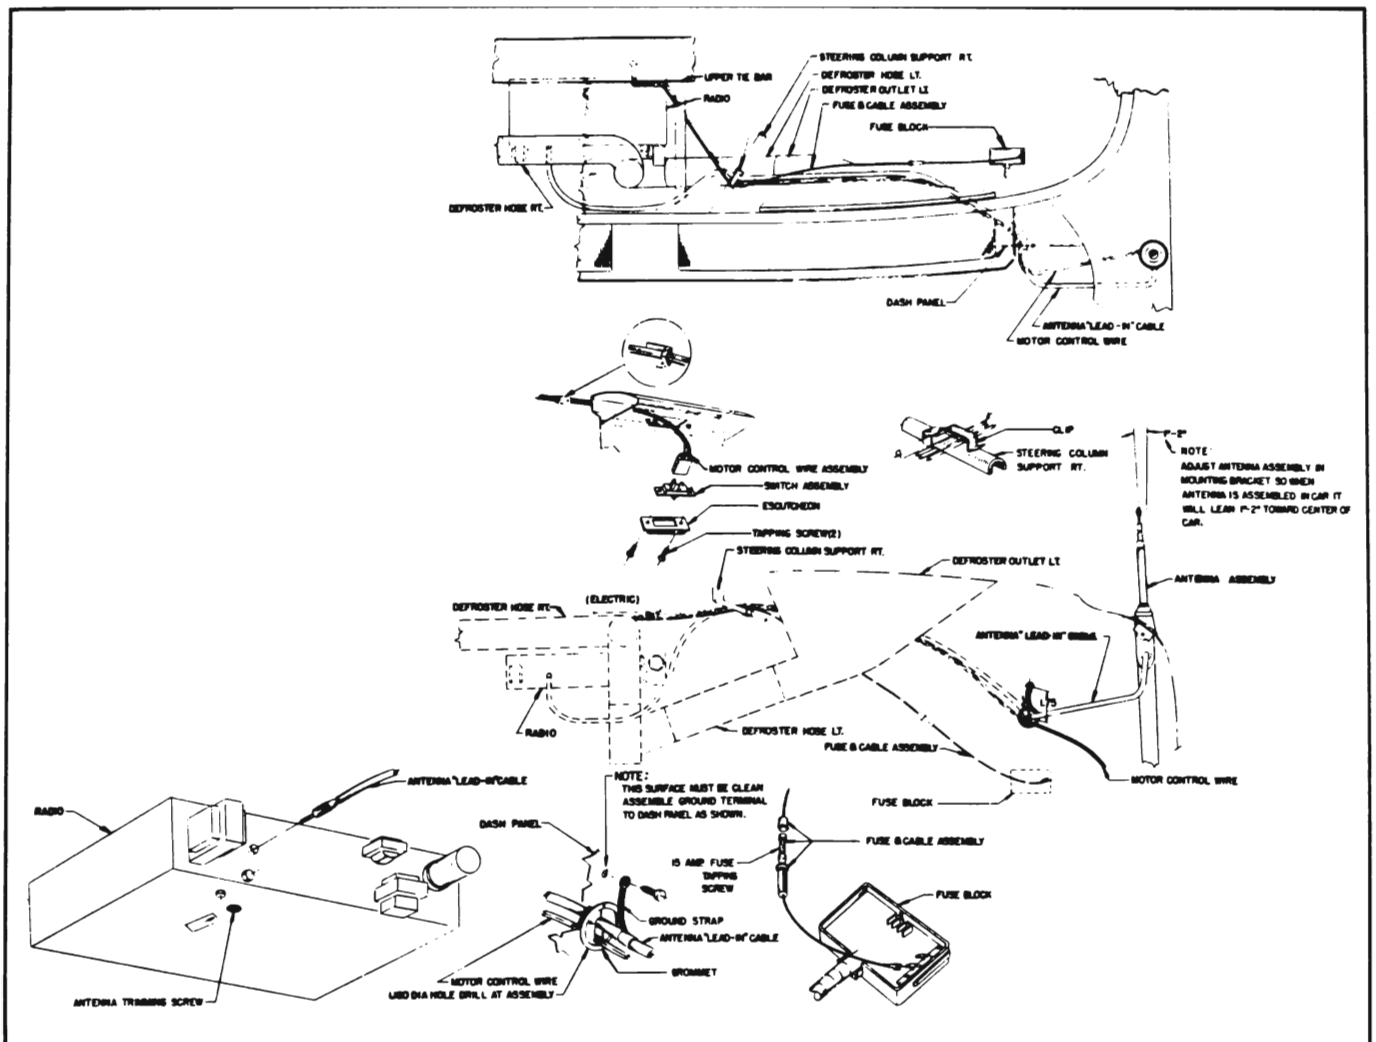

Figure 11-10—Electric Antenna Installation
8. Attach cable ground lead to cowl at hole provided. Be sure to clean paint from cowl surface at this point, then attach the lead terminal with a #10-16 x 1/2" tapping screw. See Figure 11-10.
Figure 11-10 shows all necessary details for reinstalling the electric motor driven antenna. The installation procedure is very similar to that described for manual antenna (Subpar. f) except for the following points.
1. Bring the motor wire through grommet in cowl with the lead-in cable and attach lead-in ground lead to cowl with a 10-16x $\frac{1}{2}$ " tapping screw, with internal lockwashers on both sides of terminal. See figure 11-10.
2. Remove instrument panel upper right and left. For the routing and the connection of the motor control wire assembly, see Figure 11-10.
3. Insert a screwdriver up through the opening in the rear of the bottom of the receiver (fig. 11-10). Carefully turn the trimmer screw back and forth until a position is found that gives maximum volume.